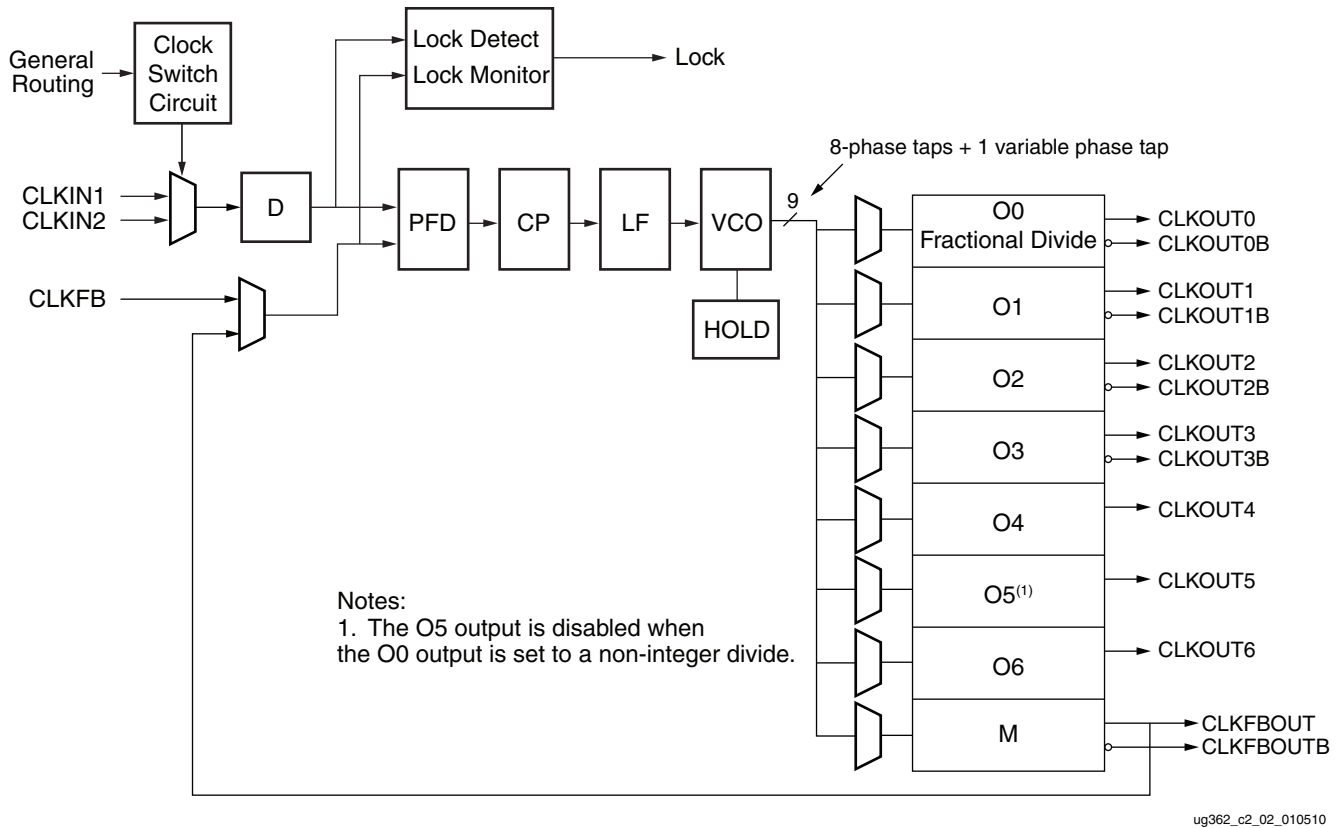

Figure 2-2: Detailed MMCM Block Diagram
Input MUXes select the reference and feedback clocks from either the IBUFG, BUFG, BUFH, GTs (CLKIN only), or interconnect (not recommended). Each clock input has a programmable counter divider (D). The Phase-Frequency Detector (PFD) compares both phase and frequency of the rising edges of both the input (reference) clock and the feedback clock. If a minimum High/Low pulse is maintained, the duty cycle is ancillary. The PFD is used to generate a signal proportional to the phase and frequency between the two clocks. This signal drives the Charge Pump (CP) and Loop Filter (LF) to generate a reference voltage to the VCO. The PFD produces an up or down signal to the charge pump and loop filter to determine whether the VCO should operate at a higher or lower frequency. When VCO operates at too high of a frequency, the PFD activates a down signal, causing the control voltage to be reduced decreasing the VCO operating frequency. When the VCO operates at too low of a frequency, an up signal will increase voltage. The VCO produces eight output phases and one variable phase for fine-phase shifting. Each output phase can be selected as the reference clock to the output counters (Figure 2-2). Each counter can be independently programmed for a given customer design. A special counter, M, is also provided. This counter controls the feedback clock of the MMCM allowing a wide range of frequency synthesis.
where the M, D, and O counters are shown in Figure 2-2. The value of M corresponds to the CLKFBOUT_MULT_F setting, the value of D to the DIVCLK_DIVIDE, and O to the CLKOUT_DIVIDE.